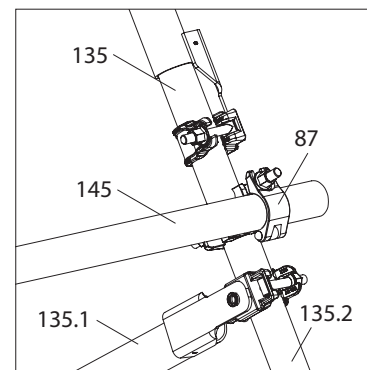

Fig. A15.07a
2. For 3 m long bays, horizontally reinforce each multi brace with an outer tube. For bay lengths  $\leq 2.5$  m, horizontally reinforce each multi brace with a scaffolding tube (145) and standard couplers (87). (Fig. A15.07a)